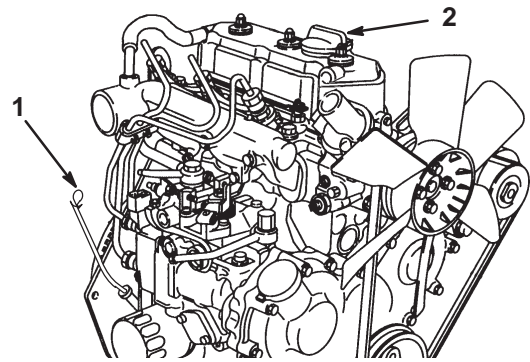

Figure 17
2. Remove the dipstick and wipe it with a clean rag (Fig. 17). Push the dipstick into the tube and make sure it is seated fully. Remove the dipstick from the tube and check the level of oil. If the oil level is low, remove the filler cap from the valve cover and **slowly** add enough oil to raise the level to the Full mark on the dipstick. Add the oil slowly and check the level often during this process. **Do not overfill.**